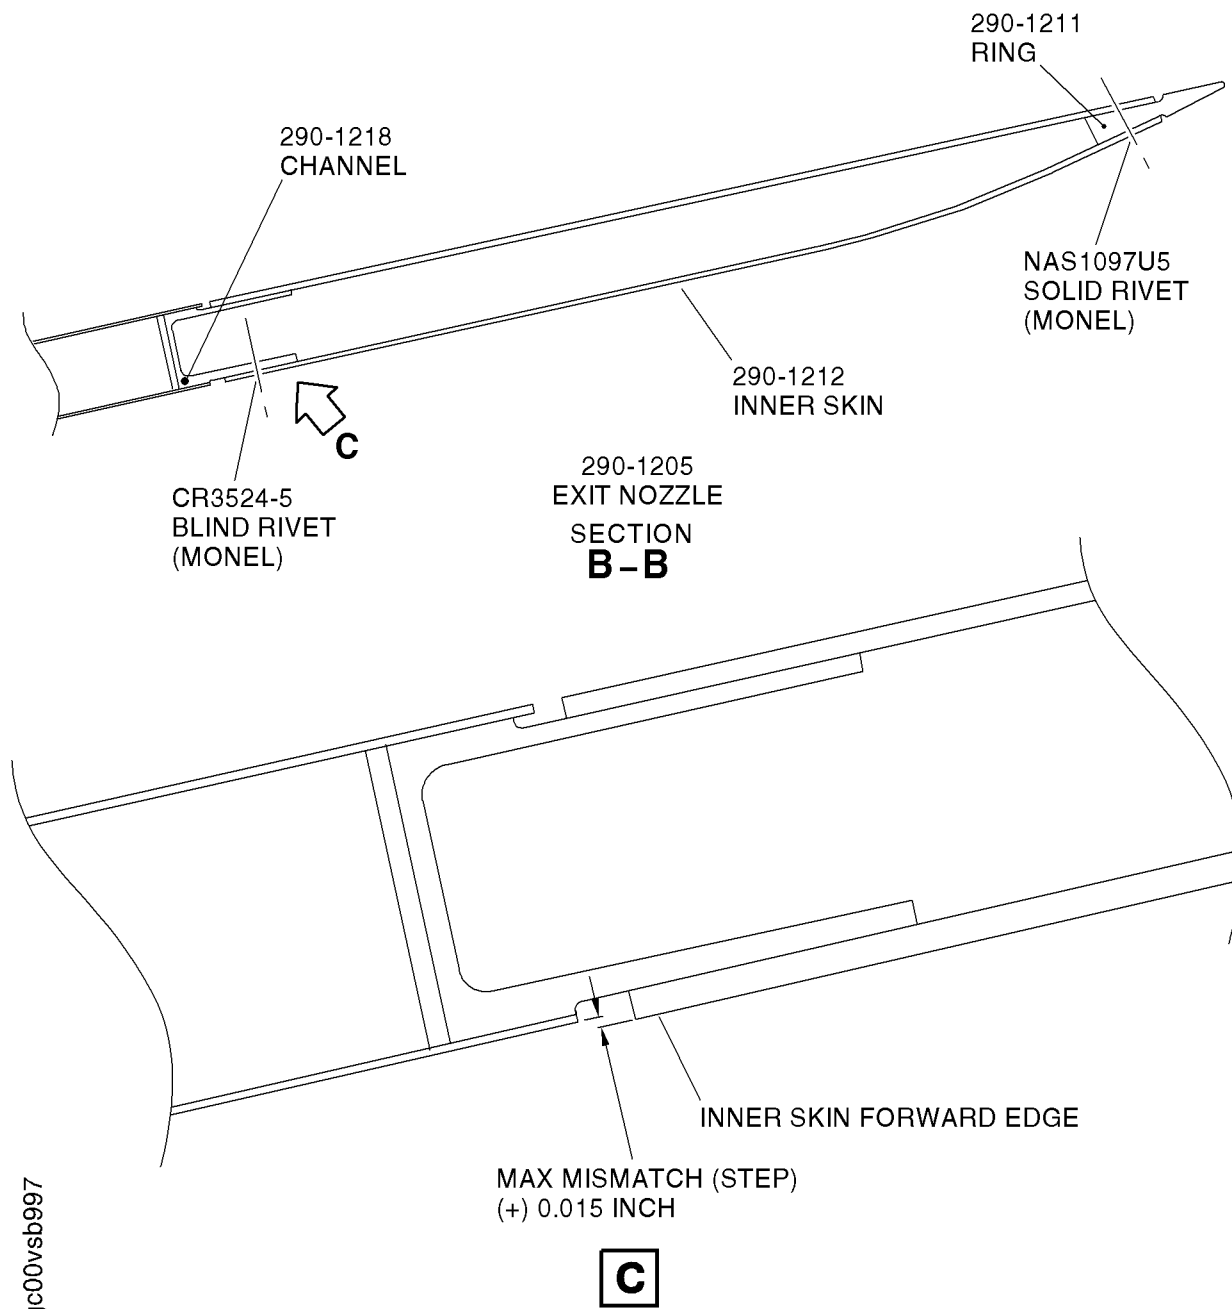

Figure 3
- H. Once all missing and loose rivets have been replaced, visually inspect the CNA exit nozzle inner skin forward edge mismatch (step) with respect to the outer barrel inner skin at locations where loose or missing fasteners were identified. See Figure 3 for mismatch requirements. Please contact Goodrich for disposition for areas falling outside mismatch (step) tolerances shown in Figure 3.